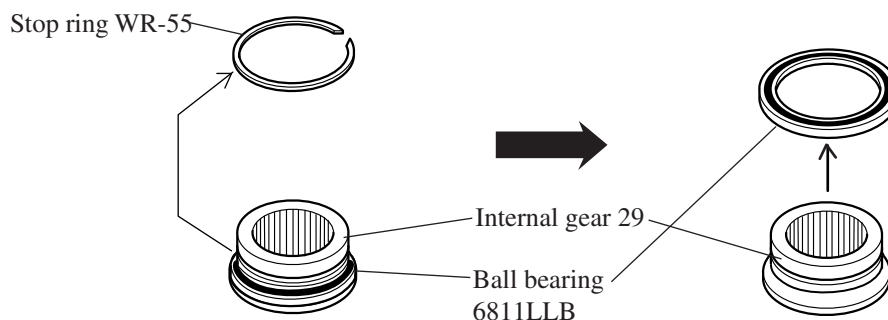

Fig. 21
- 1) Remove stop ring WR-55 with No.1R003 retaining plier from internal gear 29. The, ball bearing 6811LLB can be removed from internal gear 29 with hand. See Fig. 21.
When assembling ball bearing 6811LLB, take reverse step of Fig. 21.